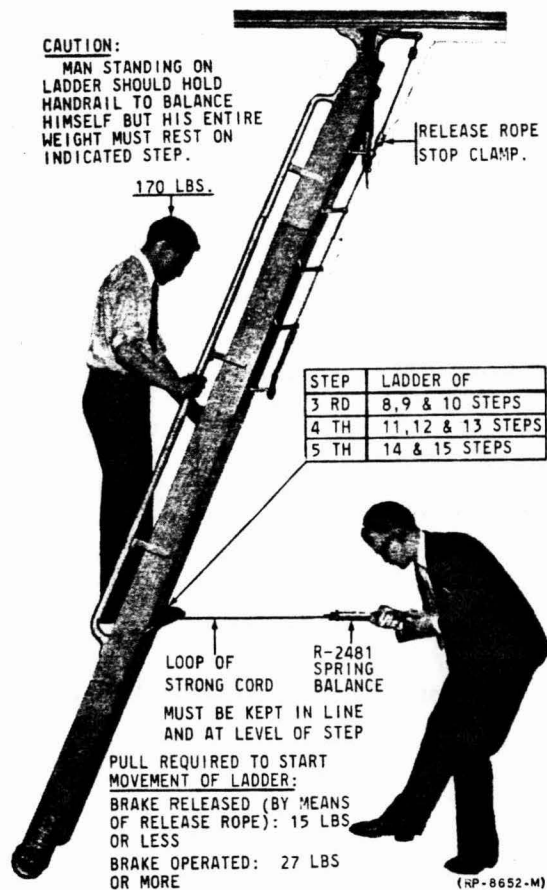

FIG. 4 BRAKE PULL CHECK
6.12 Check pull required to move ladder. (See Figure 4 and Paragraph 6.3.)